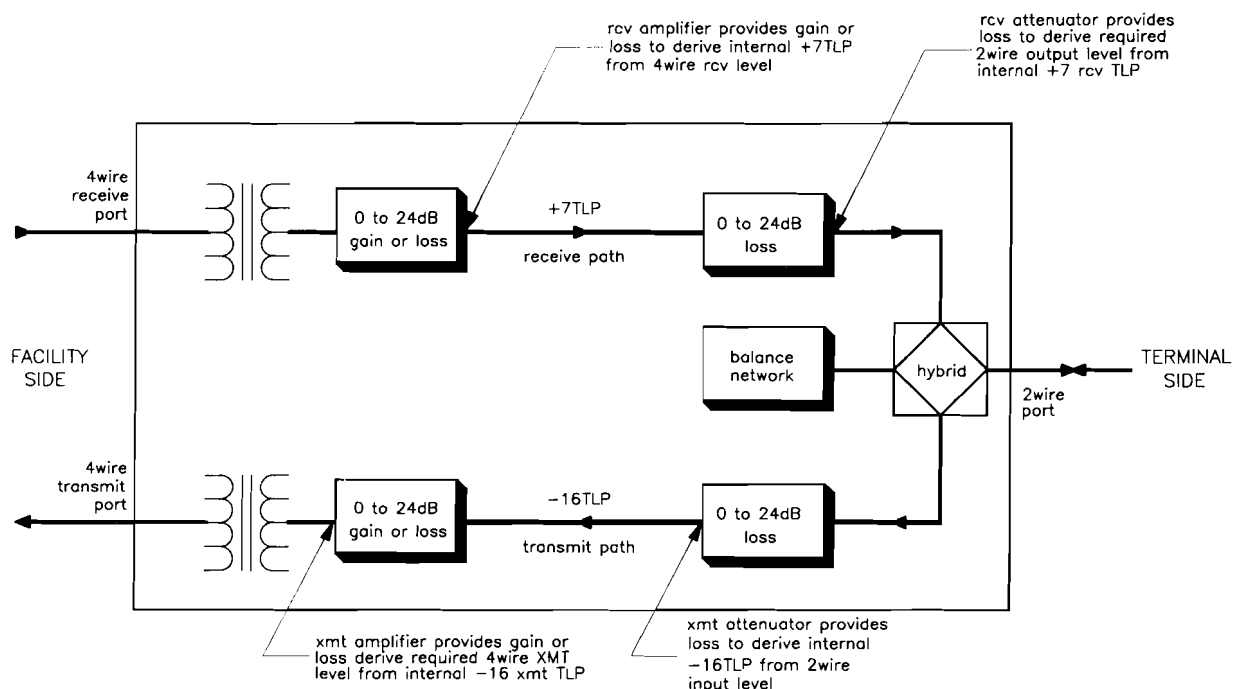

figure 4. Level coordination in 6178 module
2.07 Prescription-set transmit and receive amplifiers on the facility side of the 6178 allow the module to interface the SF signaling facility directly, i.e., without a separate facility-side line amplifier. The module's amplifiers, in conjunction with the prescription-set transmit and receive attenuators on the module's terminal side, provide for full coordination between facility-side (4wire) and terminal-side (2wire) levels (see figure 4). In the receive channel, the facility-side amplifier is set to provide the gain or loss necessary to derive a +7 transmission level point (TLP) within the module. This internal TLP is then used as a reference as the module's terminal-side receive attenuator is set to provide the loss necessary to derive the required terminal-side 2wire output level. In the transmit channel, the terminal-side attenuator is set to provide the loss necessary to derive a -16TLP within the module. This internal TLP is then used as a reference as the module's facility-side transmit amplifier is set to provide the gain or loss necessary to derive the required facility-side 4wire transmit output level. Both facility-side amplifiers in the 6178 provide from 0 to 24dB of gain or 0 to 24dB of loss in switch-selectable 0.1dB increments. Both terminal-side attenuators provide from 0 to 24dB of loss in switch-selectable 0.1dB increments. Thus, 4wire receive TLP's from -17 to +7 can be accommodated and 2wire output TLP's from +7 to -17 can be derived. In a similar manner, 2wire input TLP's from -16 to +8 can be accommodated and 4wire transmit TLP's from +8 to -16 can be derived. Total facility-side gain or loss and total terminal-side loss introduced into a channel are the respective sums